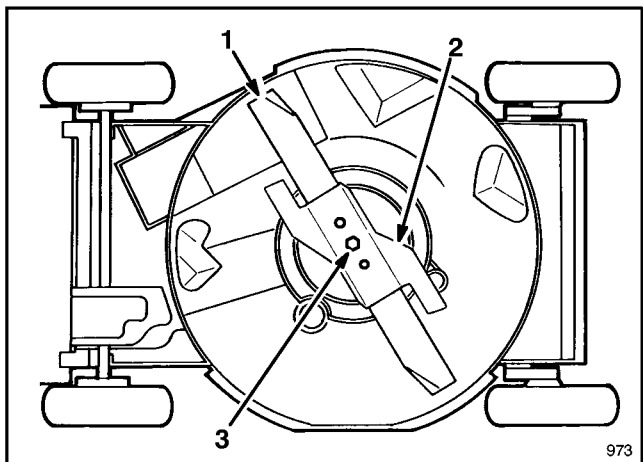

Figure 25
6. Tip mower on its left side (Fig. 25). Avoid rotating blade because starting problems may result.
8. REMOVING BLADE—Grasp end of blade using a rag or thickly padded glove. Remove blade bolt, lock washer, accelerator and blade (Fig. 25).